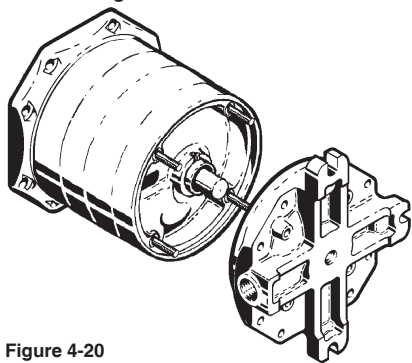

Figure 4-20
- c. With the "O"Ring facing the last channel ring, slide the Outlet Cover (#2) over the Guide Rods. The outlet port should be oriented 180° from the inlet port on close coupled units. The outlet port should be oriented on the same side as the inlet port on horizontal units. Push on firmly until the "O"Ring fits inside the lip of the channel ring. Refer to figure 4-20.
22. Install one (1) "O"Ring (#8) on each of the four Guide Rods (#18)
- c. With the "O"Ring facing the last channel ring, slide the Outlet Cover (#2) over the Guide Rods. The outlet port should be oriented 180° from the inlet port on close coupled units. The outlet port should be oriented on the same side as the inlet port on horizontal units. Push on firmly until the "O"Ring fits inside the lip of the channel ring. Refer to Figure 4-20.
25. Insert the eight (8) Thru Bolts (#19) through the holes in the outlet cover and the inlet cover. Thread one (1) Nut (#20) on each of the eight Thru Bolts and on the end of each Guide Rod (#18). Using two 9/16" wrenches or sockets, tighten the bolts/nuts systematically, alternating